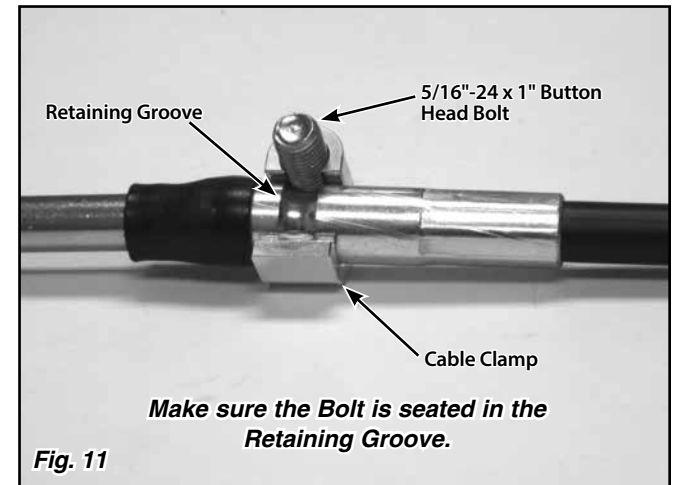

Fig. 11
Step 15: Insert the 5/16"-24 x 1" button head bolt into the upper cable clamp, and position the upper cable clamp on the cable, making sure that the bolt is seated in the retaining groove. *Fig. 11*